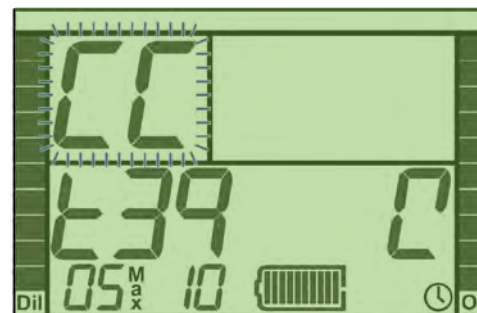

Figure 2-6B. Introduce test 39.
Test 39 (mouthpiece CC position test) is automatically passed provided the mouthpiece was left in the CC position following the previous steps. If, for some reason, the mouthpiece is not in the CC position when Test 39 appears on the screen, the mouthpiece vibrator will activate along with the HUD and battery LEDs and audio alarm with a high frequency tone. The letters “CC” will appear in the upper-left corner of the LCD screen and will flash until the mouthpiece switch is placed in the CC position (Figure 2-6B). The system allows the diver up to two minutes to make this switch. The “Closed-Circuit” icon will continue to display on the LCD until Test 39, when the mouthpiece needs to be switched to the open-circuit (CC) position.